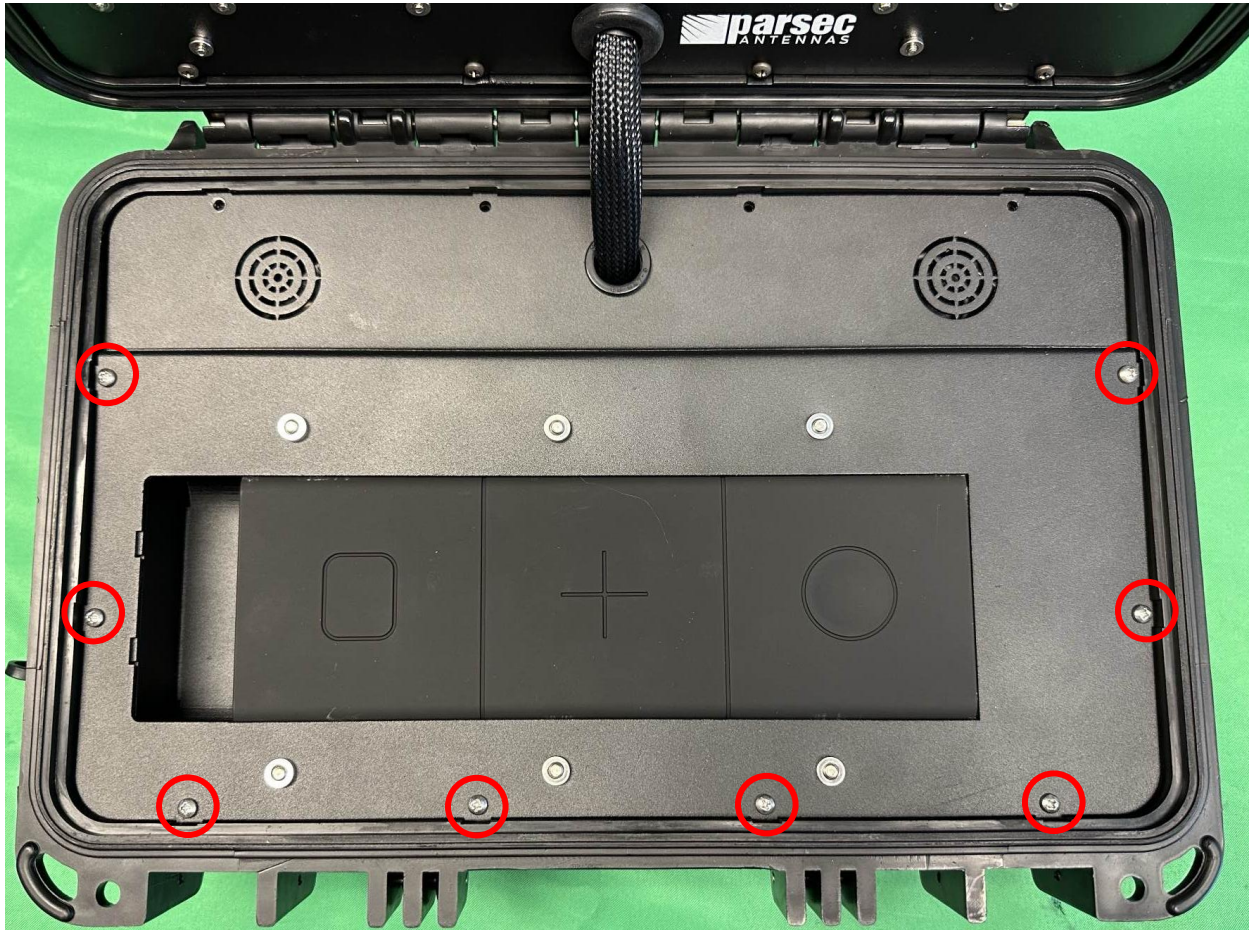

Figure 26: Fasten the cover plate to the case using PTA0099 screws.
- C. Fasten the top of the cover plate to the case using the four PTA0071 screws provided in the kit, as shown in Figure 26.